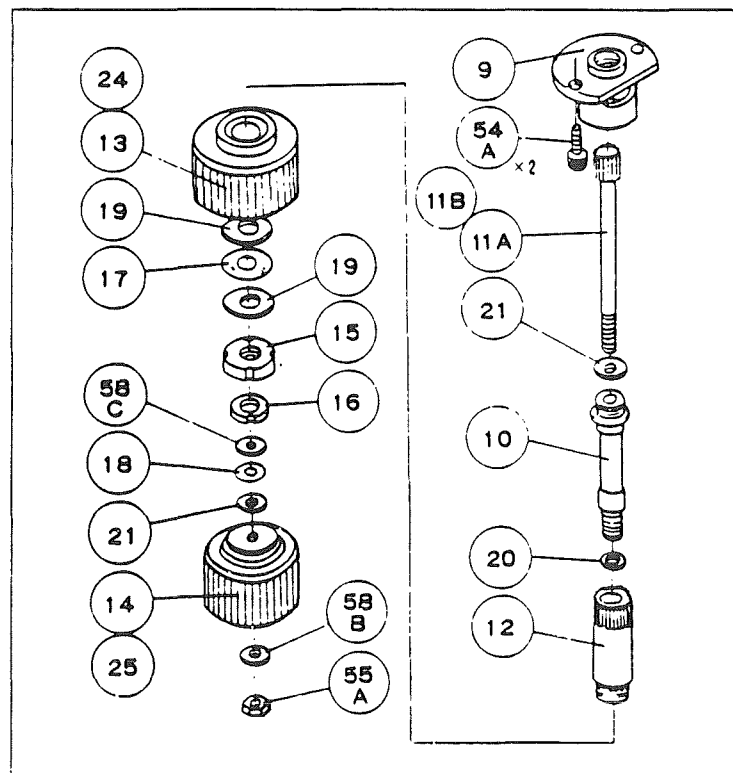

Fig. 9
- 4) Fix the above slide glass retainer assembly on the holder (32). The latter is to be attached to the stage.
**< Reassembling the Handle >** (Fig. 9)
- 1) Insert the X pinion with the axle (11A)(11B) into the assembly of the pinion cover (9) and the pinion bearing (10).